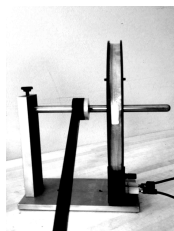

Figure 7: Setup for measuring the fall-off of B_z on axis.
8. Put the small coil on the stand as in Fig. 7, and move it as close as you can to the large coil, so that the two coils are approximately co-planar. Define z as the distance between the planes of the coils; at the moment $z = 0$.